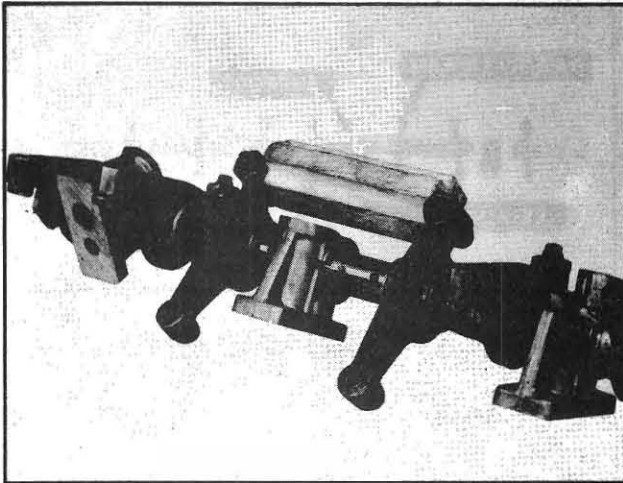

Fig. 53
2. Take out the locating pin, see Fig. 53.